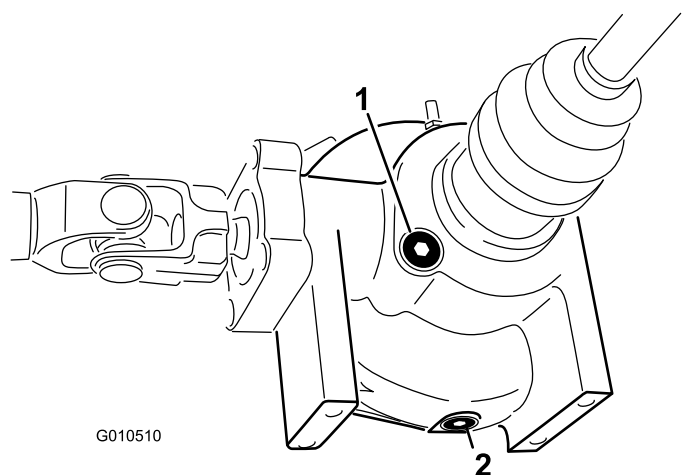

Figure 21
2. Clean the area around the fill/check plug on side of the differential (Figure 21).